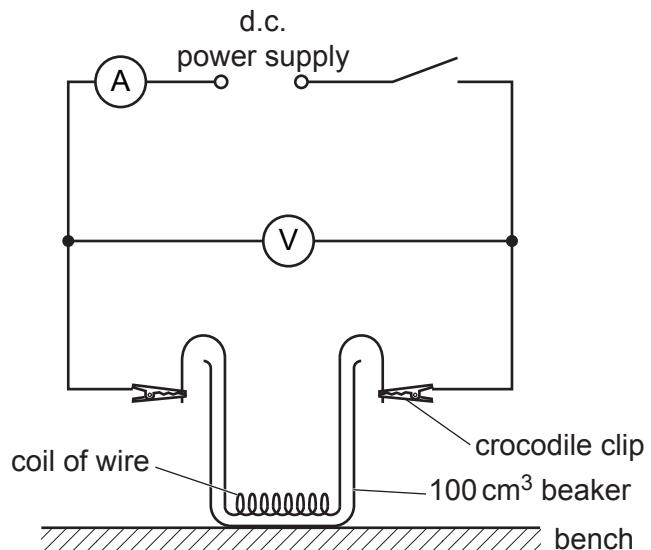

Fig. 1.1
- 6 connecting wires to enable the supervisor to set up the circuit shown in Fig. 1.1
1. The power supply should be able to deliver a current of just under 1.5A. If a variable supply is used, the control dial should be fixed to deliver 1.5A to the circuit shown in Fig. 1.1, and the dial taped over by the supervisor to prevent any adjustment by the candidate.
The wire should be wound around a pencil to form a coil of approximate diameter 0.7cm, which should then be placed at the bottom of the beaker with the two ends protruding over the sides of the beaker as shown in Fig. 1.1. The turns of the coil **must not** touch each other.
The supervisor should check that the circuit is set up as in Fig. 1.1 with the switch open. Water in the 100cm³ beaker should be discarded. The supervisor should ensure that there is sufficient water (at least 100cm³) at room temperature for the next candidate and that the turns of the coil are not touching each other. If dry cells are used as a power source, these will need to be replaced.